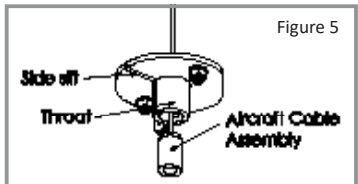

Figure 5
- Insert aircraft cable assembly through top plate opening and place inside throat using the side slit. (Figure 5)